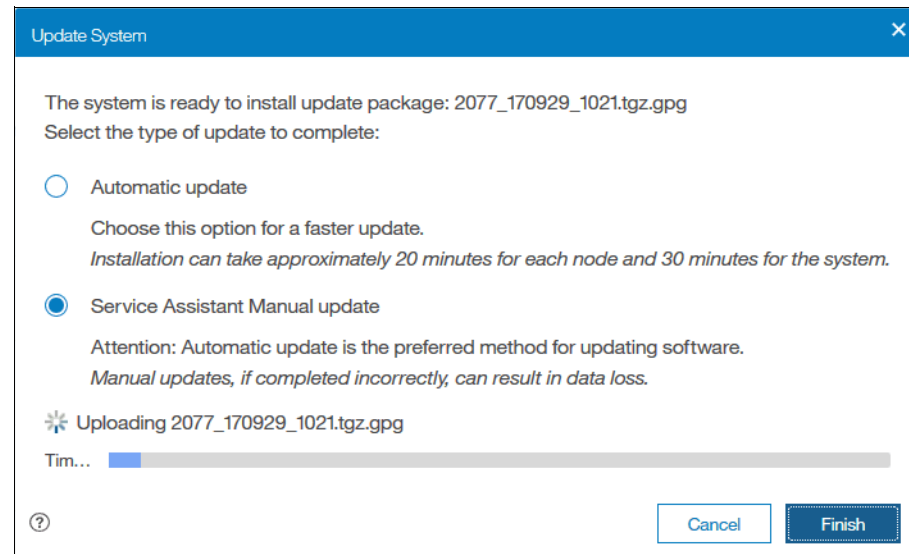

Figure 12-46 File upload
4. Wait for the test utility and update package to upload to the system, as shown in Figure 12-46.